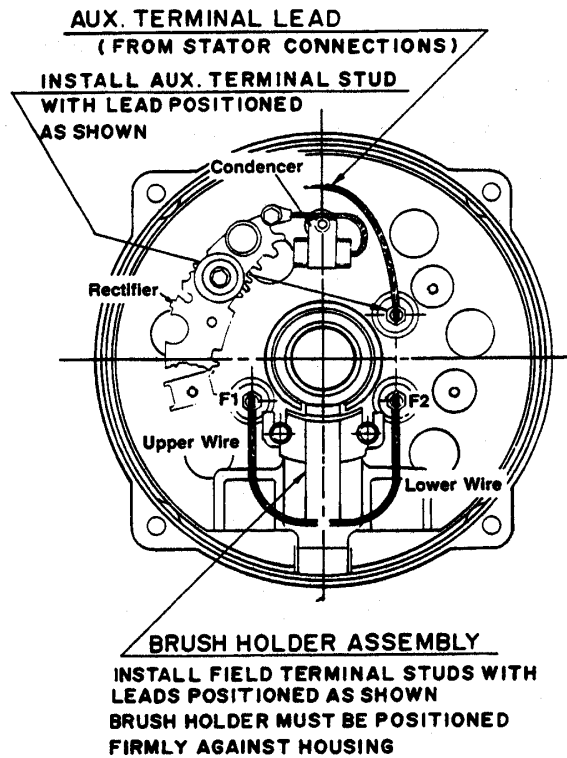

FIGURE 22
1. Install the capacitor (16) into the housing (30) if it was removed. Apply "Loctite #242" to the #8 attaching screw (15) torque to 15-20 in.-lbs. See Figure 22. Attach the capacitor terminal (16) to the positive rectifier plate with screw (38). (Note -Earlier alternators required a 6-32 screw; later alternators require a 10-24 screw. Capacitor lead terminal hole, if too small should be enlarged to accept the 10-24 screw using a 13/64 drill.)